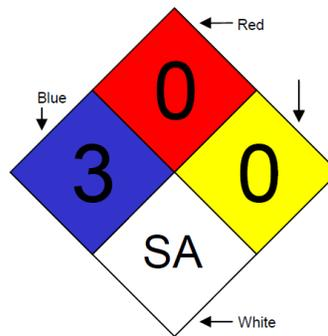

Figure 3. NFPA 704 Sign for Liquid CO2
**OCFM:** *Where liquid CO2 containers are located in buildings, visible National Fire Protection Association (NFPA) 704 hazardous identification signs displaying the following hazard ratings (Health-3; Flammability-0; Reactivity-0; General Information-SA) (see Figure 3), shall be posted at specific entrances (e.g., storage room doors, exterior doors closest to tanks, clearly visible on walls above the tank) where carbon dioxide tanks are stored, as determined by the local fire code official.*